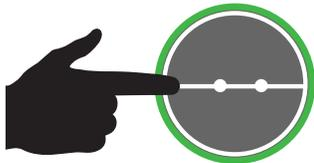

Figure 145. Main Circuit Breaker ON Button
- Press the **Main Circuit Breaker ON** button (Figure 145).